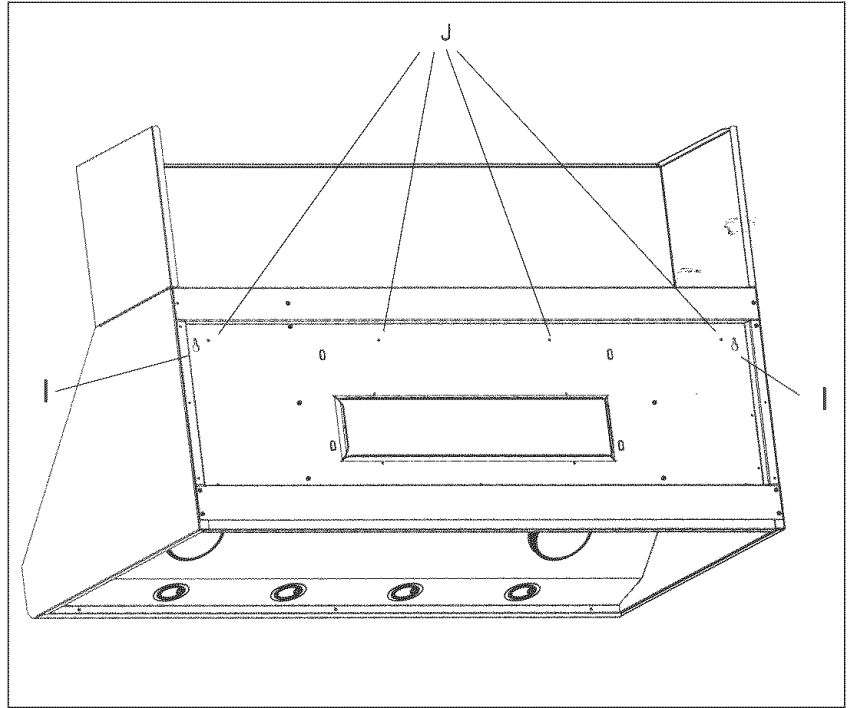

Figure 8
13. Rest the hood on the screws in the wood bracket. Use the keyholes labeled "I" in Figure 8. Make sure the wood bracket fits into the recess on the back of the hood.
16. From inside the hood drive screws (#8 x 5/8") through holes in hood into wooden bracket. See holes labeled J in Figure 8.